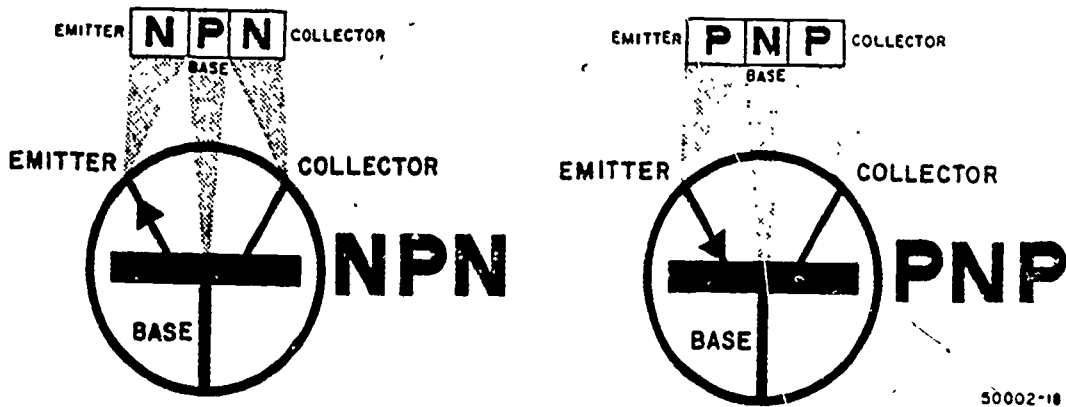

Figure 1-4. Transistor symbols.
- (1) The NPN transistor is constructed with the emitter and collector made of N-type semiconductor material, while the base is made of P-type material. The schematic symbol is shown in figure 1-4.
- (2) The PNP transistor is constructed with the emitter and collector made of P-type semiconductor material, while the base is made of N-type material. The schematic symbol for the PNP transistor is shown in figure 1-4.